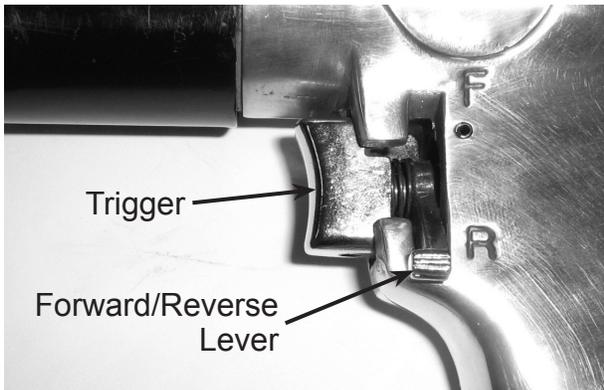

Fig. 1
1. Reversible feature controlled by the Forward/Reverse lever next to the power trigger. (See Fig. 1.) Move switch up toward "F" for forward and down toward "R" for reverse
Note: To reverse the drill's direction, flip the **Reverse Lever** on the handle down. (See Fig.1).